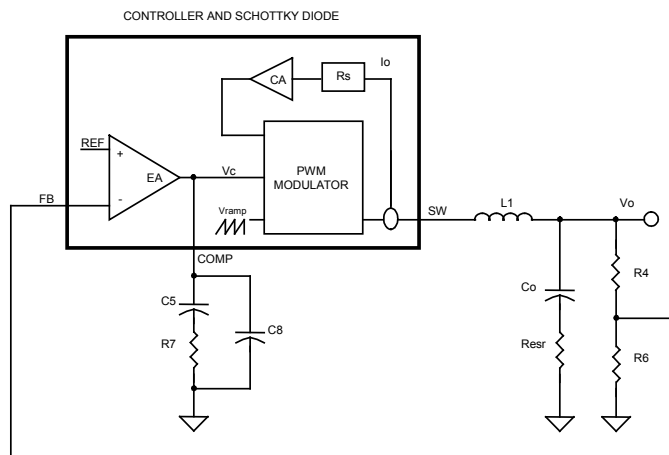

Figure 7. Block diagram of control loops
The block diagram in Figure 7 shows the control loops of a buck converter with the SC4525C. The inner loop (current loop) consists of a current sensing resistor ($R_s=3.53m\Omega$) and a current amplifier (CA) with gain ($G_{CA}=18.5$). The outer loop (voltage loop) consists of an error amplifier (EA), a PWM modulator, and a LC filter.
For a converter with switching frequency F_{SW} , output inductance L_1 , output capacitance C_o and loading R , the control (V_c) to output (V_o) transfer function in Figure 7 is given by: